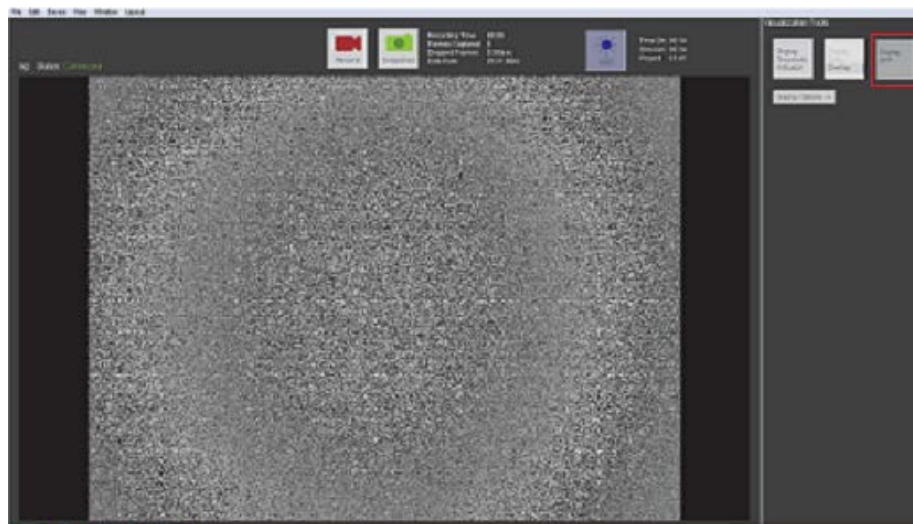

Fig 7-25. $\Delta F/F$
- Display $\Delta F/F$ enables the display of real-time $\Delta F/F$ data within the nVista software. Each pixel is redisplayed as its percent change from its own average pixel value calculated over a specified moving time window. The default time window for the average pixel calculation is 10 seconds; to change the time value, select **Edit > Change Preferences > Display > Average Interval**. This is shown in Fig 7-25.